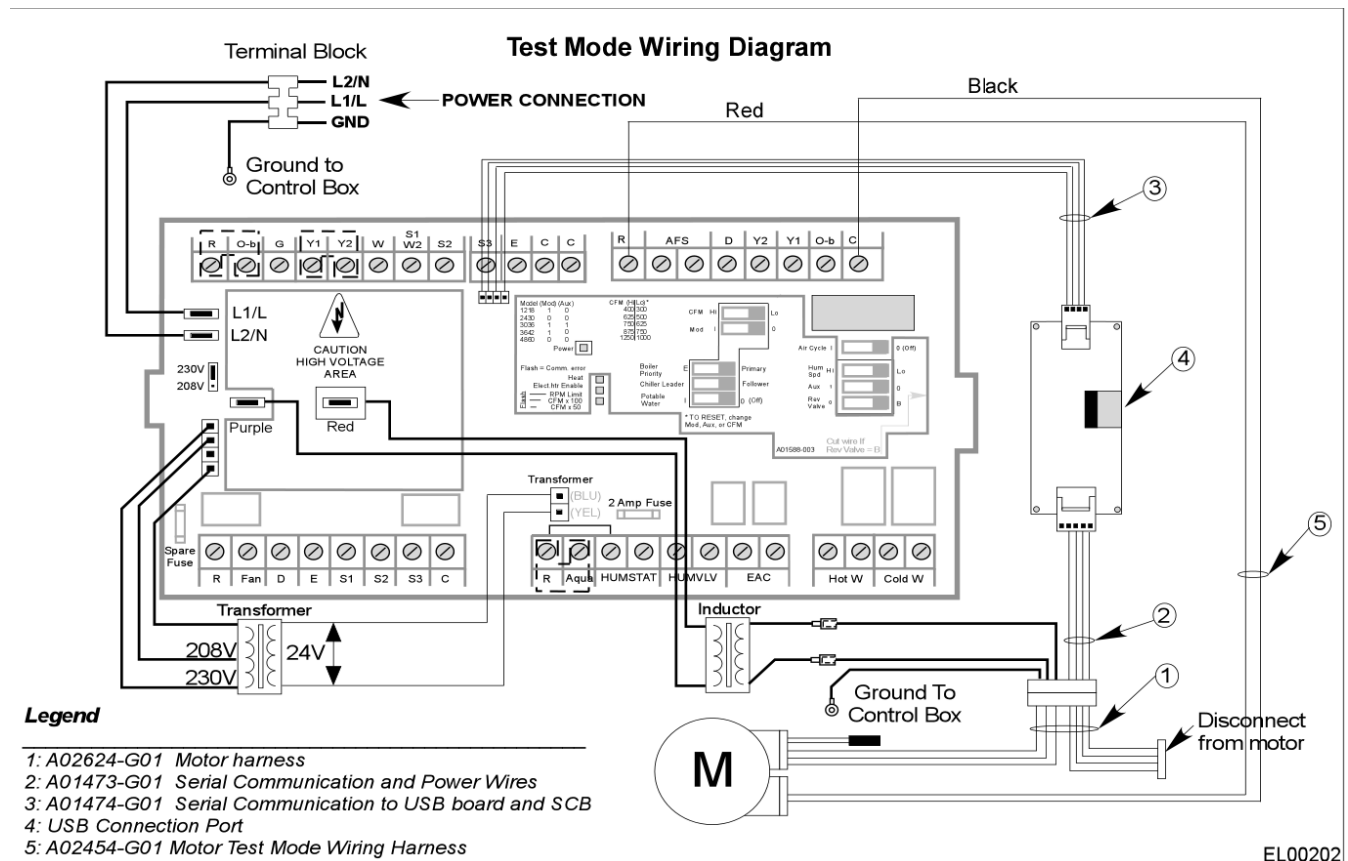

Figure 11. Motor Test Mode wiring diagram.
3. Connect the Motor Test Wiring Harness 4-terminal plug to the matching 4-terminal plug on the motor (5).
4. Connect the spade terminals of the loose wires of the Motor Test Wiring Harness to the SCB: Connect the Red wire to any R terminal and the Black wire to any Common pin shown in Figure 11.